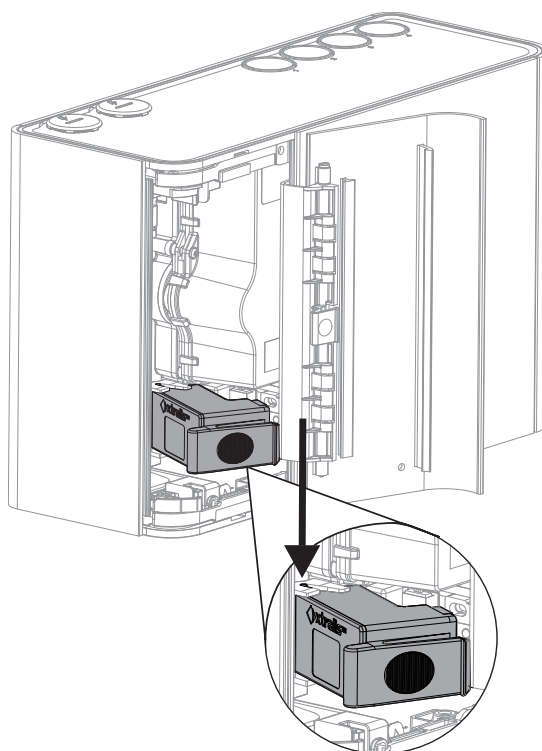

Figure 7-5: Engage hinge pins
1. Tilt the filter towards the left and position its hinge pins in their recess (Figure 7-5).